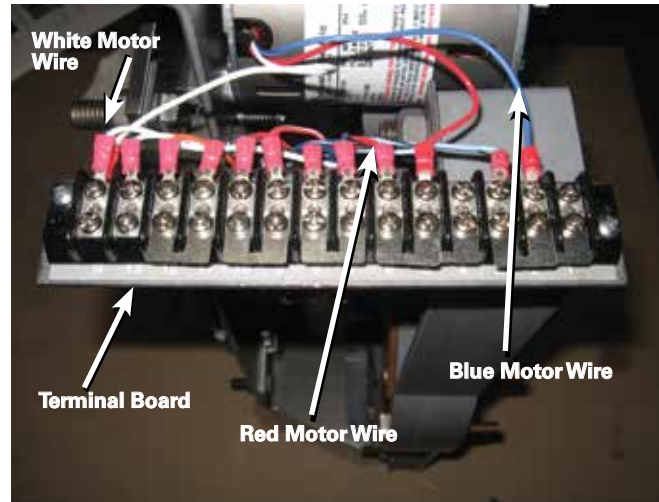

Figure 4. Disconnection of wires.
4. Use a Phillips screwdriver to disconnect the white motor wire located on terminal "G"; the red motor wire located on terminal #5 and the blue motor wire located on terminal #2. Refer to Figure 4.